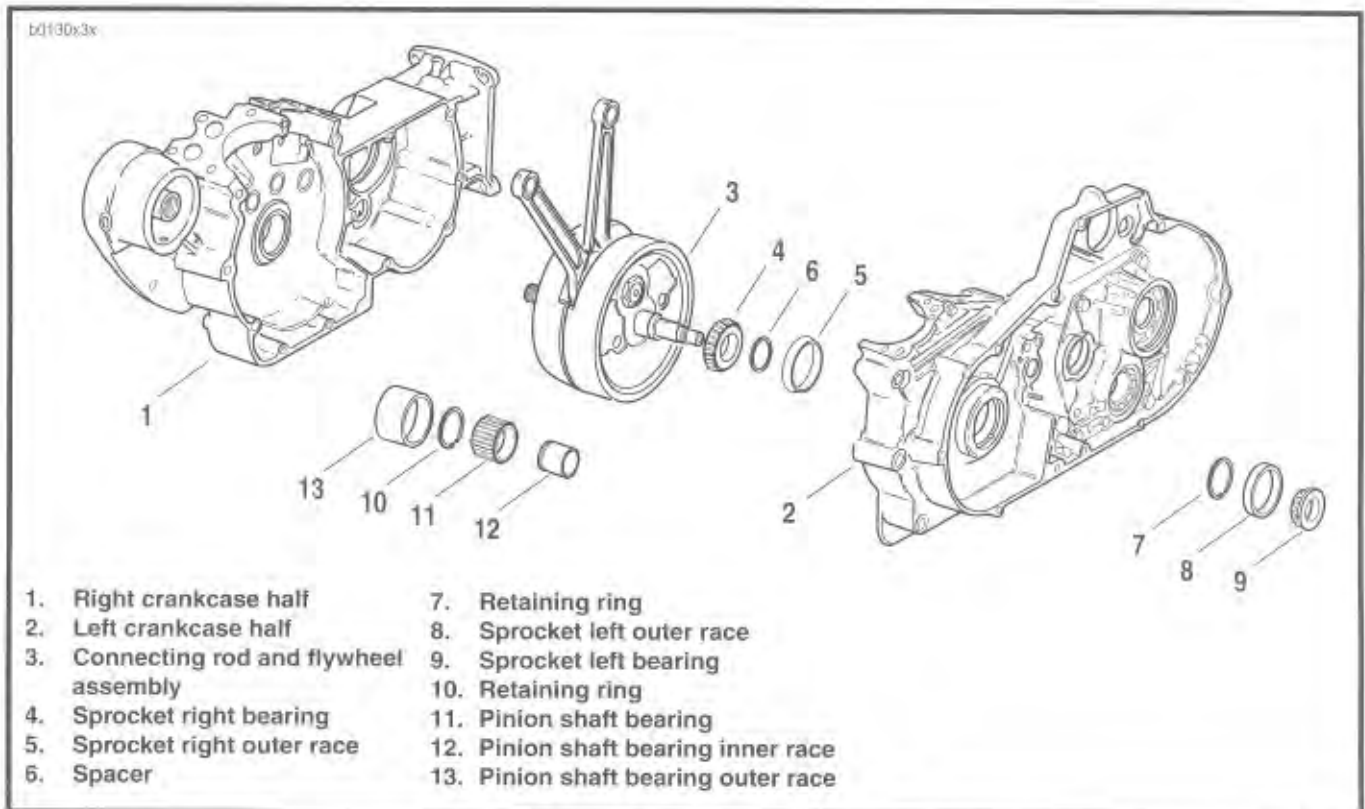

Figure 3-76. Crankcase and Flywheel Assembly
See Figure 3-76. If it is necessary to remove either the pinion shaft bearing (11) or sprocket shaft bearing (4 and 9), proceed as follows:
10. Pinion bearing (11) will remain on pinion shaft. Remove retaining ring (10), and bearing (11) may be slipped off pinion shaft.
See Figure 3-76. Do not remove retaining ring (7); the crankcase can easily be damaged during the removal process. Removal of the retaining ring is not necessary for the removal or installation of the outer bearing races.
See Figure 3-76. A pressed-in bushing in the right crankcase half is the outer race (13). The inner race (12) is pressed on the pinion shaft.